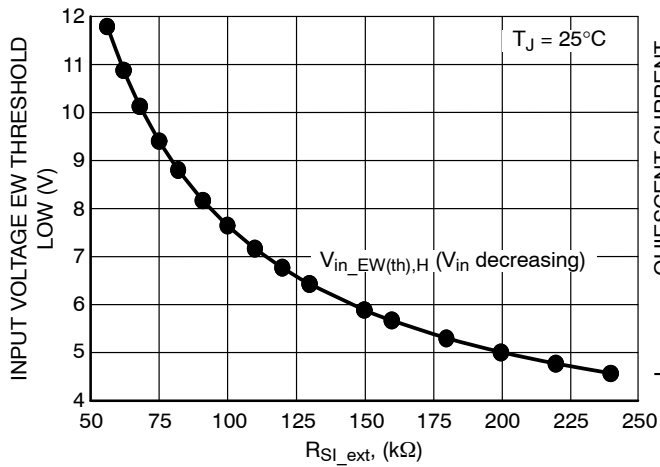
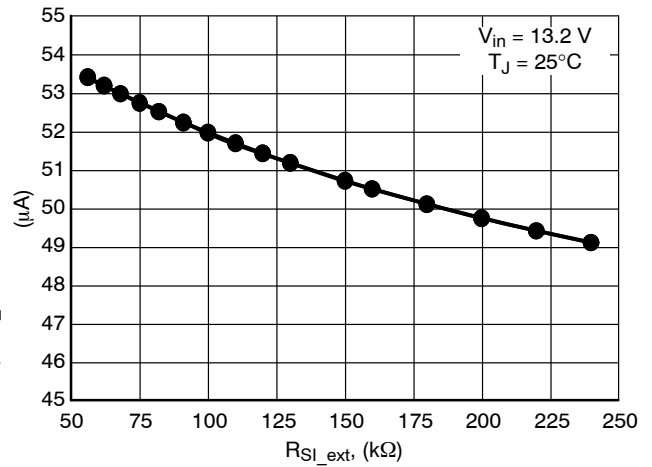

Figure 22. Input Voltage EW Threshold Low vs. R_{Sl_ext} (Calculated Using E24 Series)
Figure 23. Quiescent Current vs. R_{Sl_ext} (Including I_{RSl_ext} , Calculated Using E24 Series)
13. I_q for Preset EW Threshold Options is measured when R_{SI_ext} is not used. For typical values of I_q vs R_{SI_ext} see Figure 23.
Practically only preset options above 4.5 V can be used without R_{SI_ext} due to minimum operating input voltage value limitation. For other preset options the trip point has to be adjusted externally using R_{SI_ext} resistor connected between input monitor SI and GND (see Figure 1). For other preset options R_{SI_ext} has to be used to achieve $V_{in_EW(th)} > 5.5$ V (minimum operating input voltage value). The value for R_{SI_ext} is recommended to be selected in range from 50 kΩ to 250 kΩ and the trip point can be shifted according to Figure 22. The higher is R_{SI_ext} the lower is overall Quiescent Current of the application (see Figure 23). General formulas for calculation of $V_{in_EW(th)Low}$ or R_{SI_ext} for selected preset Early Warning options are described by Equations 1 and 2.